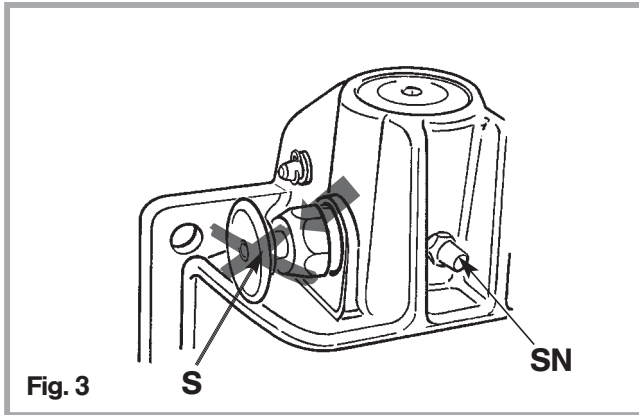

Fig. 3
- The control pin (**S**) must **not protrude out of its guide** after hitching (see Fig. 3).